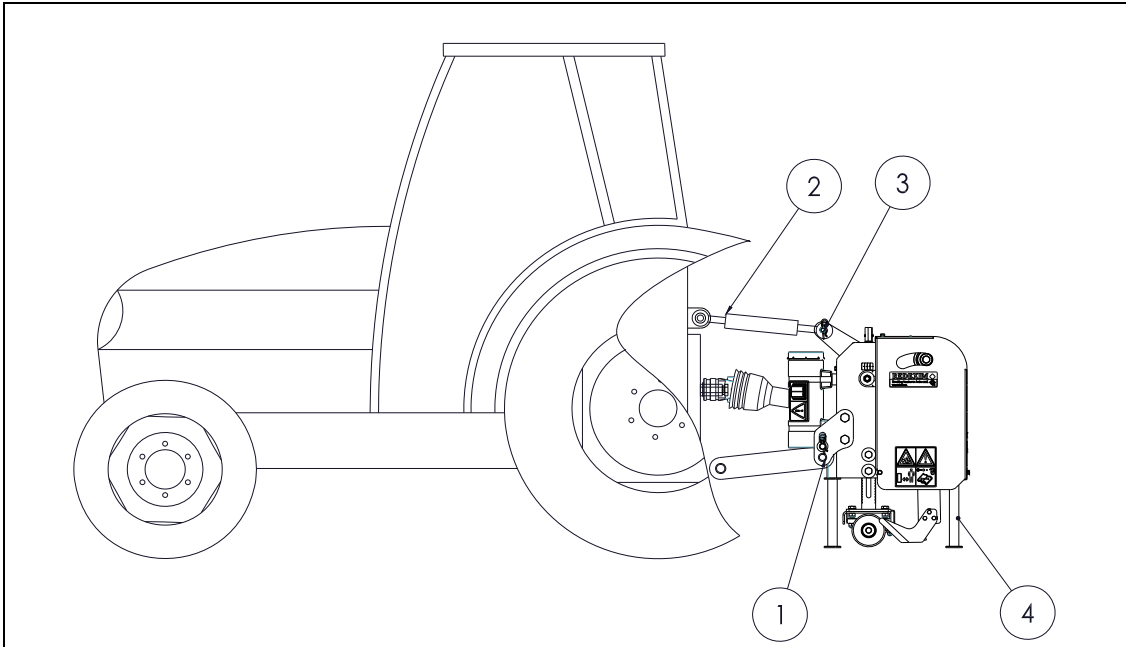

Figure 7
The procedure is as follows (Figure 7):
3. Remove the legs (see Figure 7).